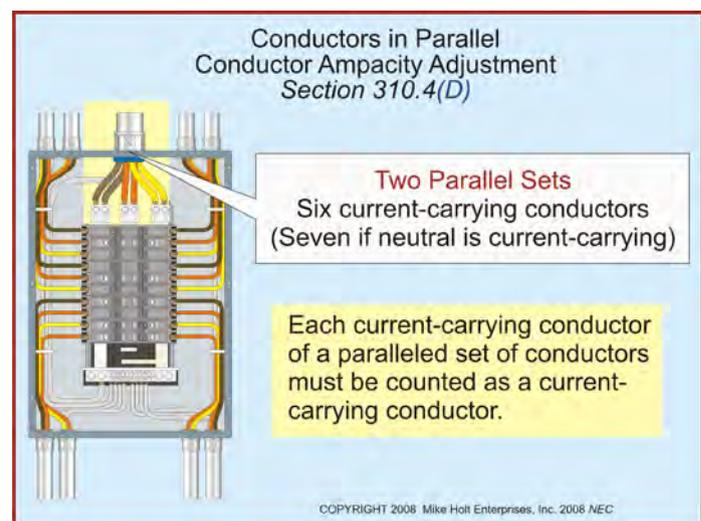

Figure 310-4
(D) Conductor Ampacity Adjustment. Each current-carrying conductor of a paralleled set of conductors must be counted as a current-carrying conductor for the purpose of conductor ampacity adjustment, in accordance with Table 310.15(B)(2)(a). **Figure 310-4**